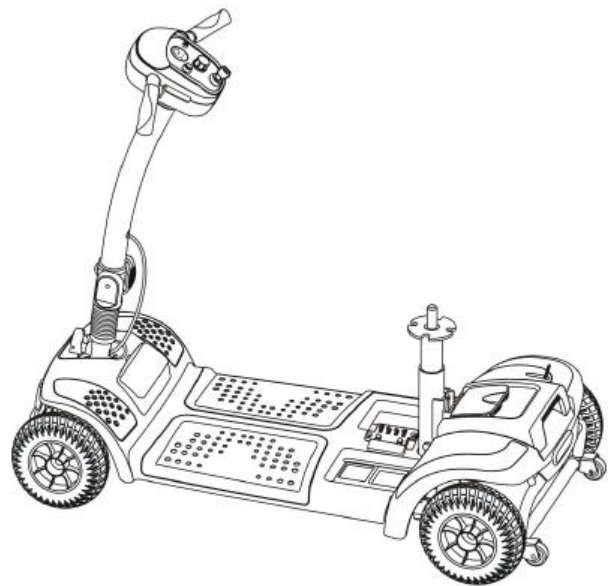

Fig 4.1.7
3. Adjust the front and rear sections (See figure 4.1.7)